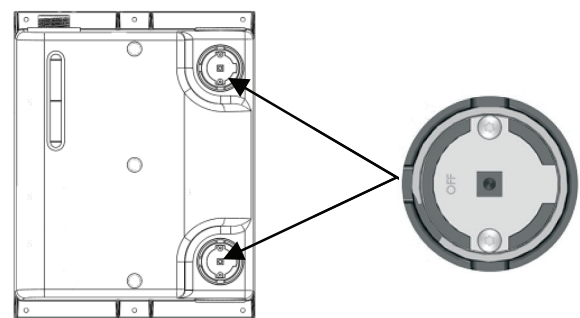

Figure 9: Valve position for flushing/purging
2. Rotate valves so that fluid will bypass the Reservoir (Figure 9).
NOTE: Fluid should not enter the reservoir of the *Geo-Prime Tank* during flushing. If it does, immediately stop flushing and check to be sure the bypass valves are in the correct orientation as shown in Figure 9.